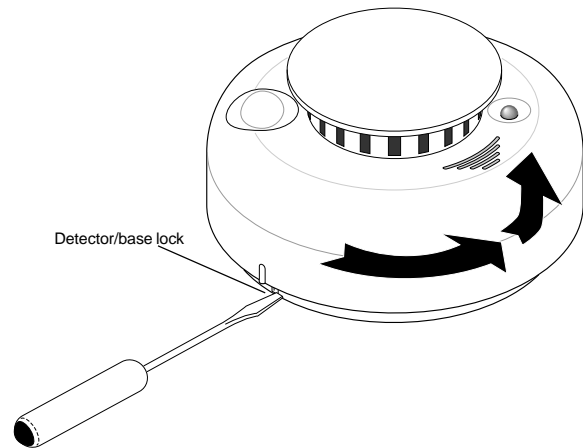

Figure 5 - Detector/Base Lock
**To remove the detector from the mounting base when the detector/base lock is used**, insert a small screwdriver into the locking tab slot on the side of the base and press in while simultaneously turning the detector counterclockwise 15 degrees. See Figure 5.